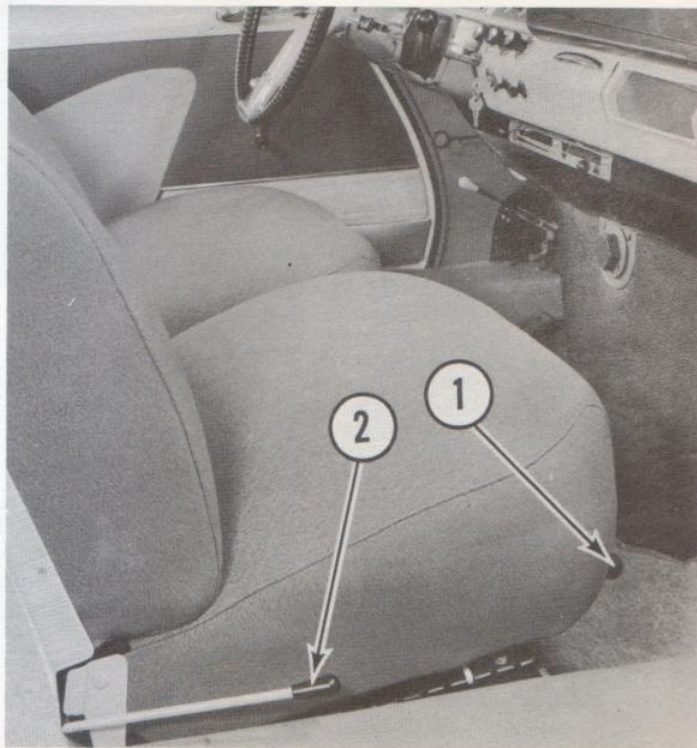

fig. 21
front seats fig. 21
- To bring a seat cushion forward or backward move from right to left the latching lever 1 (fig. 21). Then move the seat to the desired position and release the lever to lock the seat on its tracks. The standard range of adjustment is 6 inches.